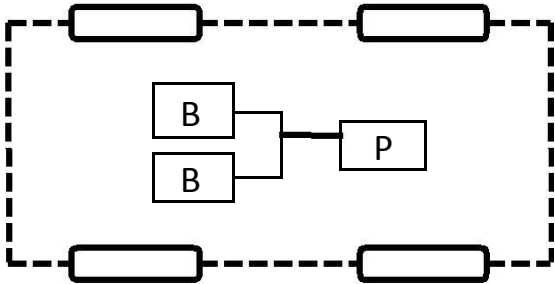

Figure 4b: EV configuration with two battery sources [1]
- **Configuration 2:** Instead of two batteries, this design uses two different batteries, **Figure 4b**. One battery is optimized for high specific energy and the other for high specific power.